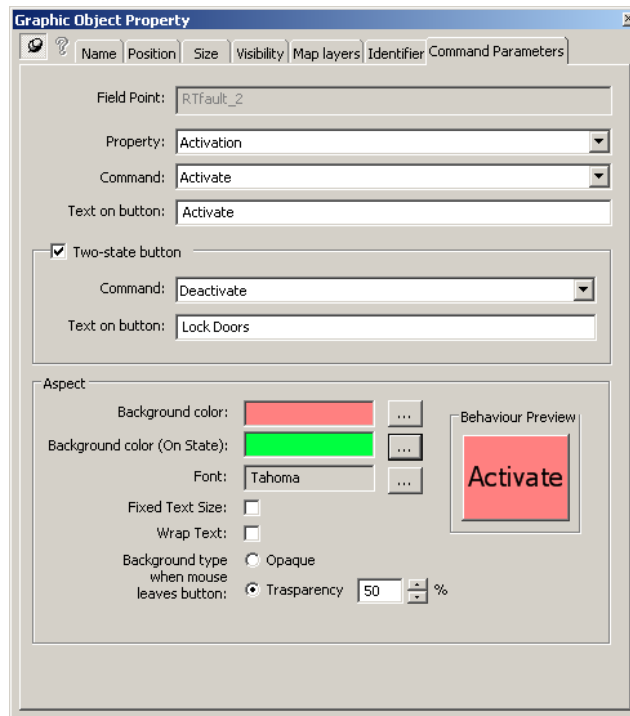

Fig. 22 Graphic Object Property window – Command Parameters tab
**Note:** Select **Fixed Text Size** to disable the automatic adjustment based on the button size. For lengthy commands, select the **Wrap Text** check box. (See Fig. 22.)